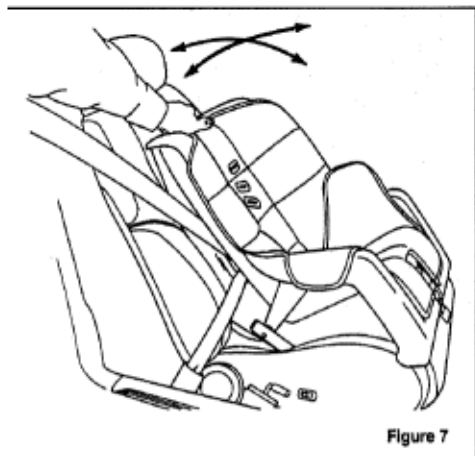

Figure 7
7. Before placing the child in the child seat, forcibly tilt the seat from side to side and in forward directions to make sure that the seat is securely held in place. See Figure 7.